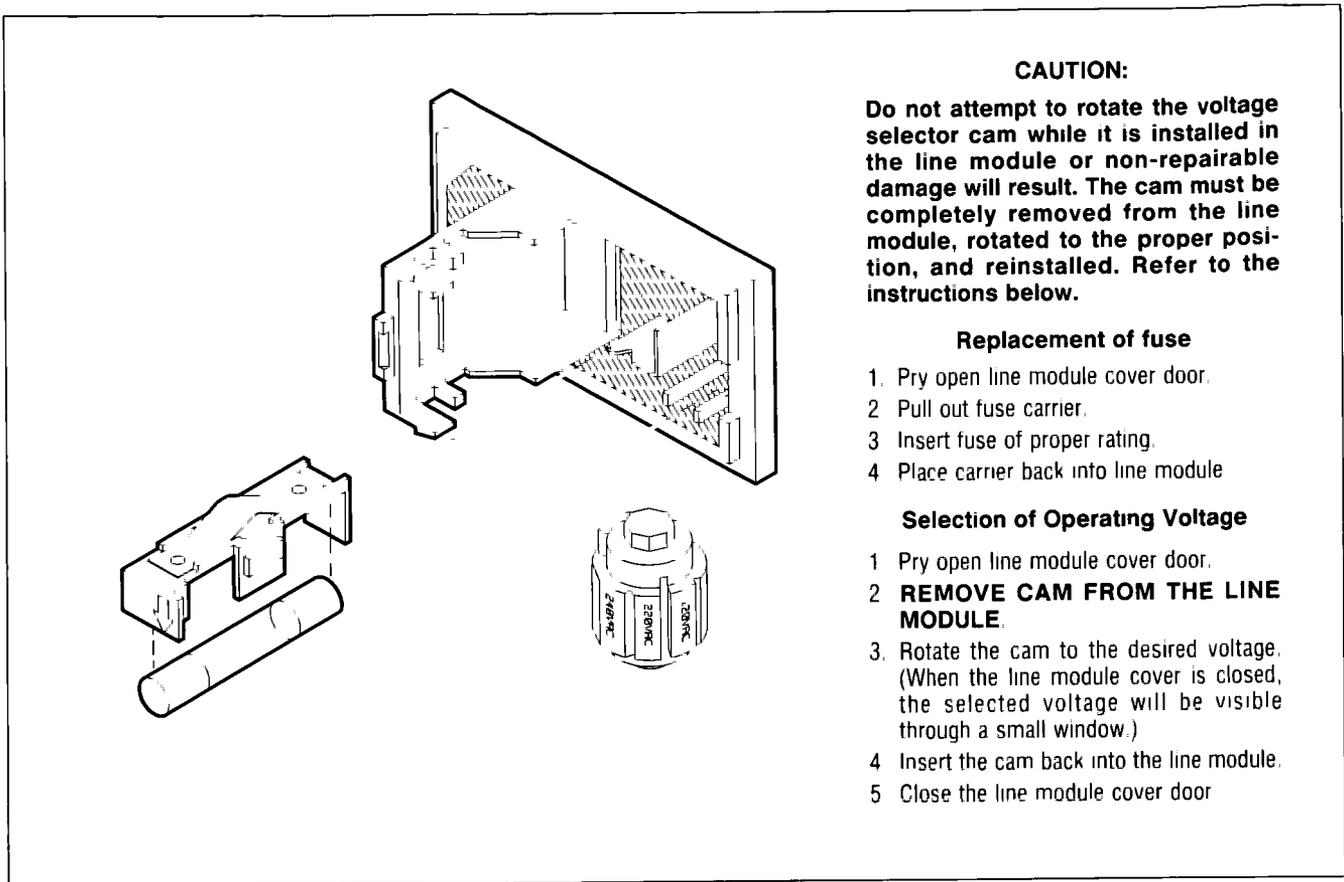

Figure 2-1. Power Line Module
Figure 2-1 illustrates the line voltage selection cam and fuse location in the power line module on the rear panel of the HP instrument. Select the line voltage and fuse rating as follows:
- b. Refer to Table 2-1. Remove the line voltage selection cam from the line module. Select the correct position of the cam (shown in Figure 2-1) by matching the measured ac line value to the correct range indicated in the table. Note that the line voltage ranges given are within  $\pm 10\%$  of the nominal line voltage. If the available line voltage does not fall within this range, you must use an autotransformer between the power source and the HP instrument to bring the line voltage within tolerance.
- c. Install the line voltage selector cam in the power line module as shown in Figure 2-1.